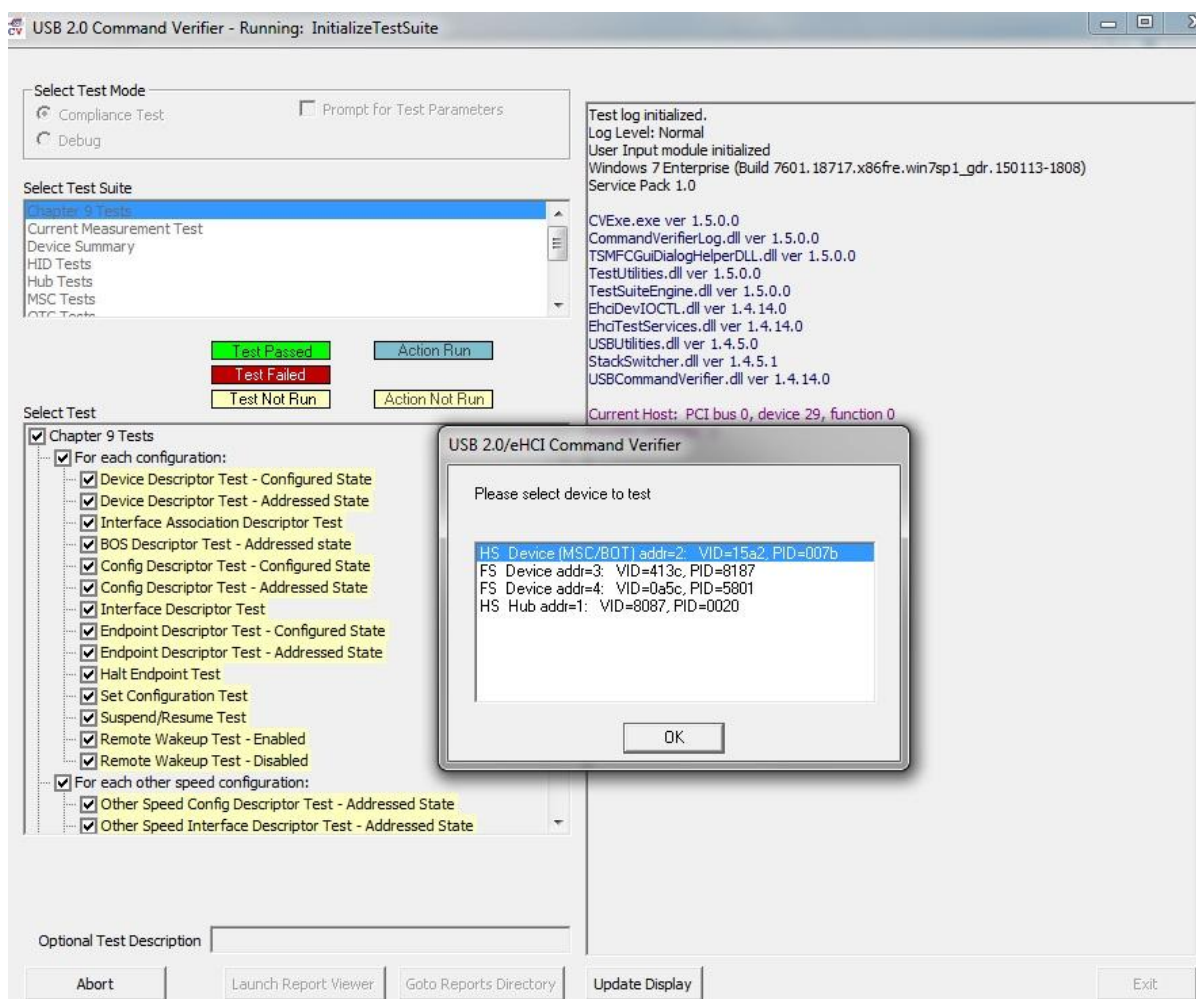

Figure 82. Select USB20CV Chapter 9 Tests
4. Select the DUT device in the list, click on **Ok** as shown in Figure 82.